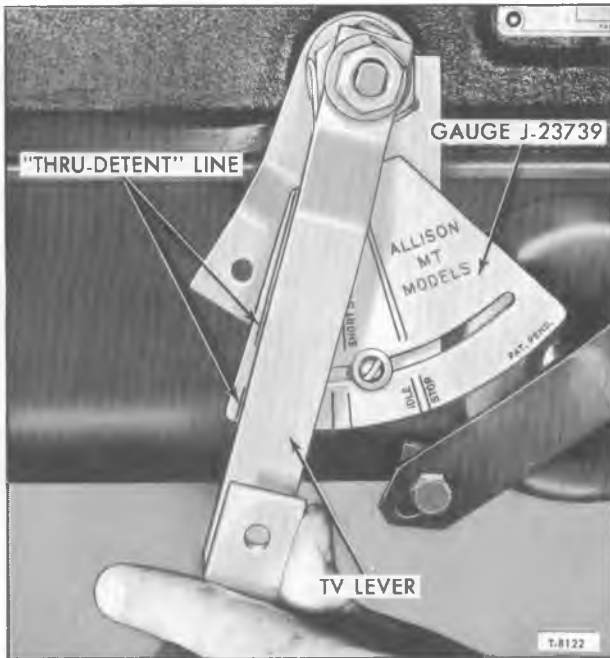

Figure 11—Checking for Proper TV Lever Travel
7. Move TV lever full clockwise as shown in figure 11. TV lever should be aligned with "THRU-
NOTE: All MT Series transmissions covered by this manual are of the Long Stroke design, and TV lever travel must be the same as shown in figure 11. Correct any internal transmission condition, if necessary, before proceeding.
7. Move TV lever full clockwise as shown in figure 11. TV lever should be aligned with "THRU-DETENT" line. This step is a check to be sure no internal condition exists in the transmission that would prevent full movement of the TV lever.